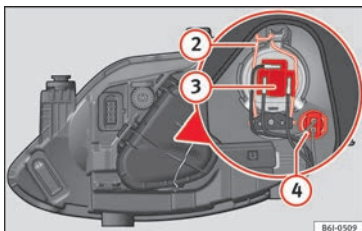

Fig. 95 Dipped beam/main beam and side light of the single headlight.
- Remove connector » Fig. 95 ③ from the bulb.
- Unclip the retainer spring » Fig. 95 ② pressing inwards to the right.
- Extract the bulb holder » Fig. 95 ④ outwards.